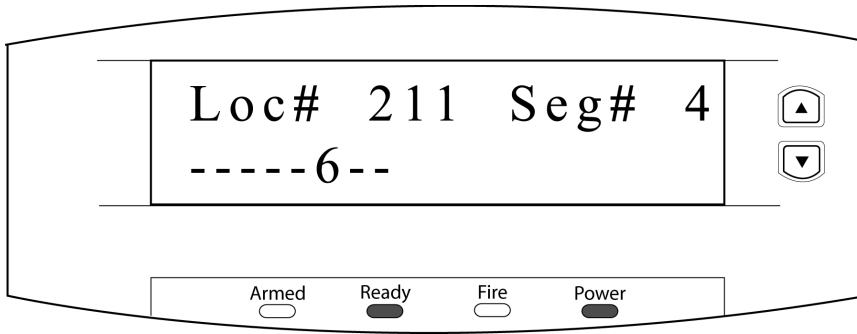

Figure 14: Alarm Panel - Location 211, Segment 4
7. Select the **\*** key to save the selection and move to the next segment. For Location 211, Segment 4, only option number 6 should be on. Once completed, the LCD will look similar to Figure 14.